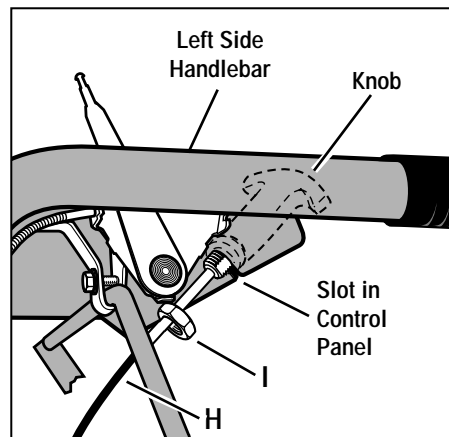

Figure 2-6: Attach Reverse Clutch Control to slotted hole in handlebar panel.
1. Carefully unwrap the Reverse Clutch Control cable (H, Figure 2-6) from its shipping position and route it up along the inside edge of the left side handlebar. A knob and large hex nut (I) is installed on the cable.
2. Insert the cable into the slot in the control panel and fit the threaded assembly into the hole in the slot (see Figure 2-6). Be sure that the flat side of the threaded assembly is aligned with the flat side of the hole. Slide the hex nut (I) up the cable and tighten it securely.